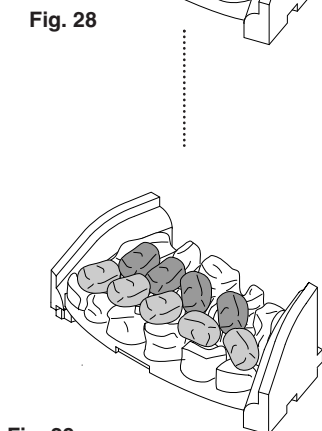

Fig. 28 Burner Bracket Lip
5. Place 5 of the loose coals into the location recesses of the front coal, (flat face downward). The 3 centre coals should rest against the corresponding rear coal spacer lugs. Orientation of the coals should be as shown in order to achieve the desired flame picture (Fig. 28).